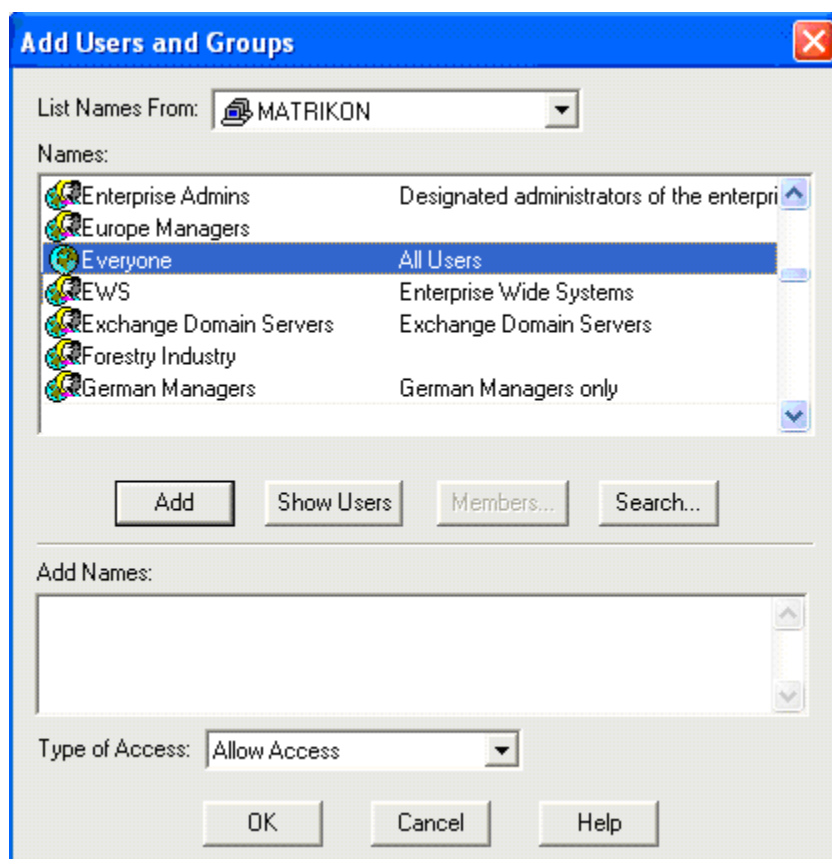

Figure 64 - Add Users and Groups Window
10. The **Add Users and Groups** window (Figure 64) appears.